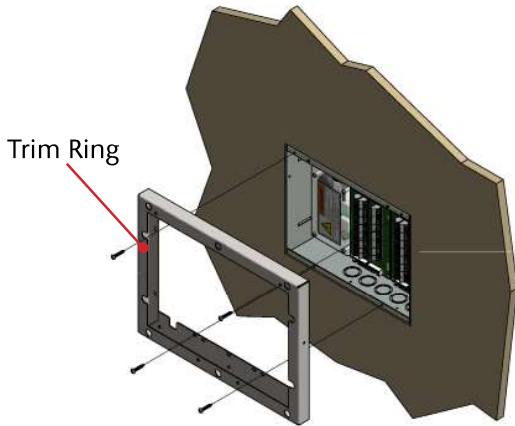

Figure 208: Retrofit Trim Ring Installation
1. Install trim plate to rough-in box using 4 of the provided screws (Figures 208 & 209). Slots in the trim plate will align with existing holes in the rough-in box flanges.